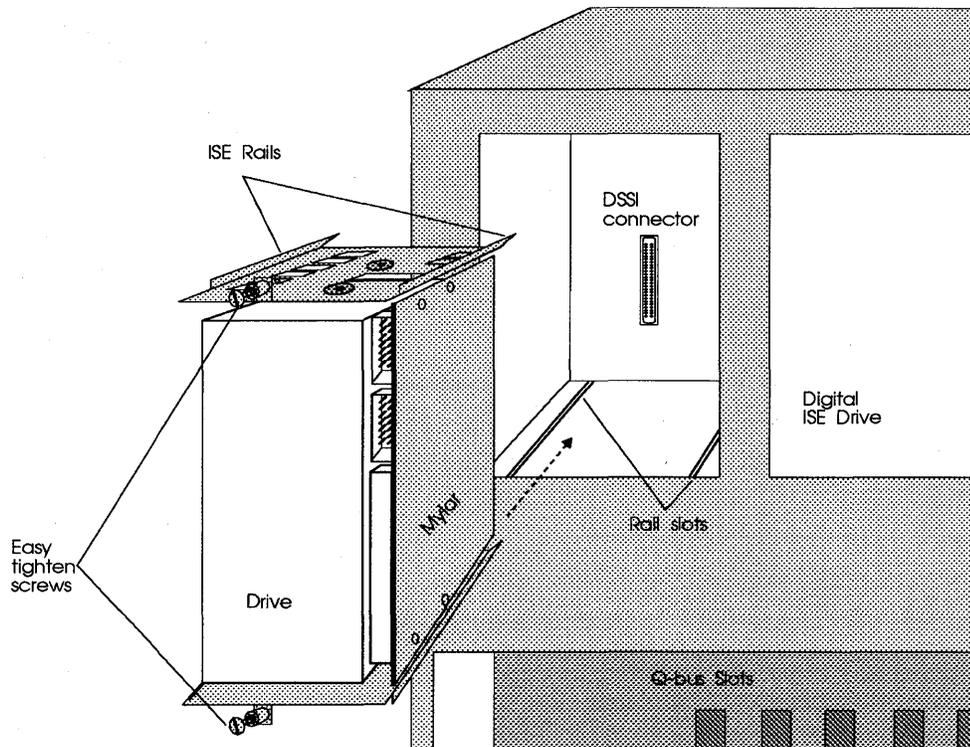

Figure 4-17: CDI-4000-SA1 ISE and drive installation
- 9 Turn the drive and the ISE chassis so that the mylar insulator faces the right and the floating connector faces the system. See Figure 4-17.
- 10 Align the ISE rails with the rail slots in the system and slide the ISE with the drive into the system until the floating connector is tightly in the DSSI connector in the backplane of the system. See Figure 4-17.